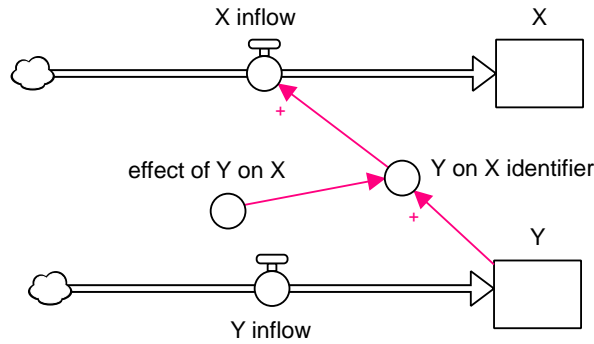

Figure 5: Pathway identifier added to model of Figure 3
- Add the converter *Y on X identifier* in the link from *Y* to the flow of *X*, and move the converter *effect of Y on X* to be attached to the *Y on X identifier*. See Figure 5: